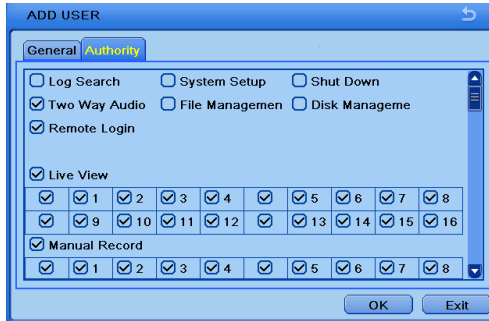

Fig 4-33 Add User-Authority
- ⑤ Select “Authority” tab and then assign the operation rights for particular user. Refer to Fig 4-33.
- ⑥ Click “OK” to save the setting.